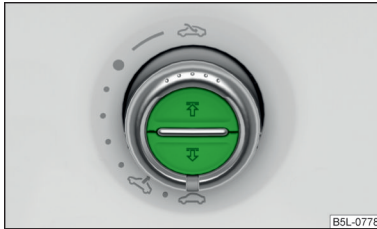

Fig. 46
**Operation of the sun blind** » Fig. 46
- › Set the switch to the position » Fig. 46 on page 63.